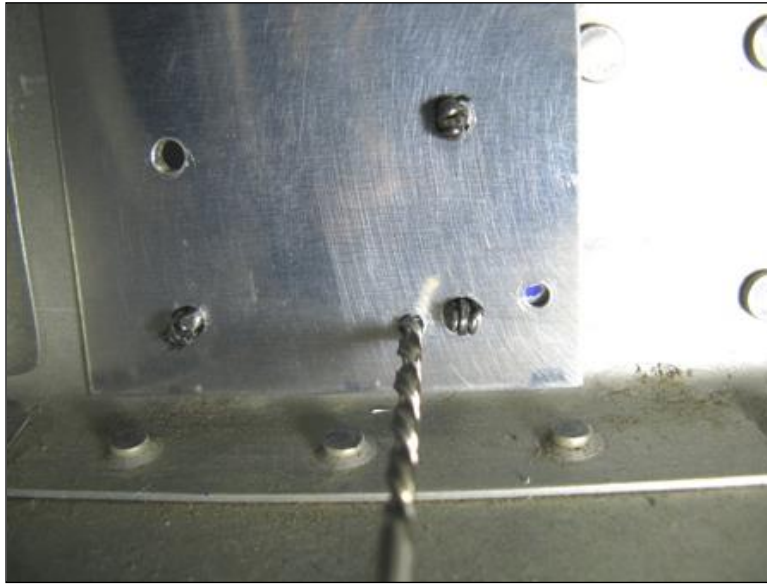

FIGURE 9: DRILLING THE SPAR
Step 14: Once you have a drill guide with properly located guide holes, cleco it in place. Match-Drill #40 through the spar web and the spar web doubler at each guide hole using a 12 in. [304.8mm] extension drill as shown in Figure 9. Remove the drill guide and deburr the stop-drill holes on both sides of the spar.